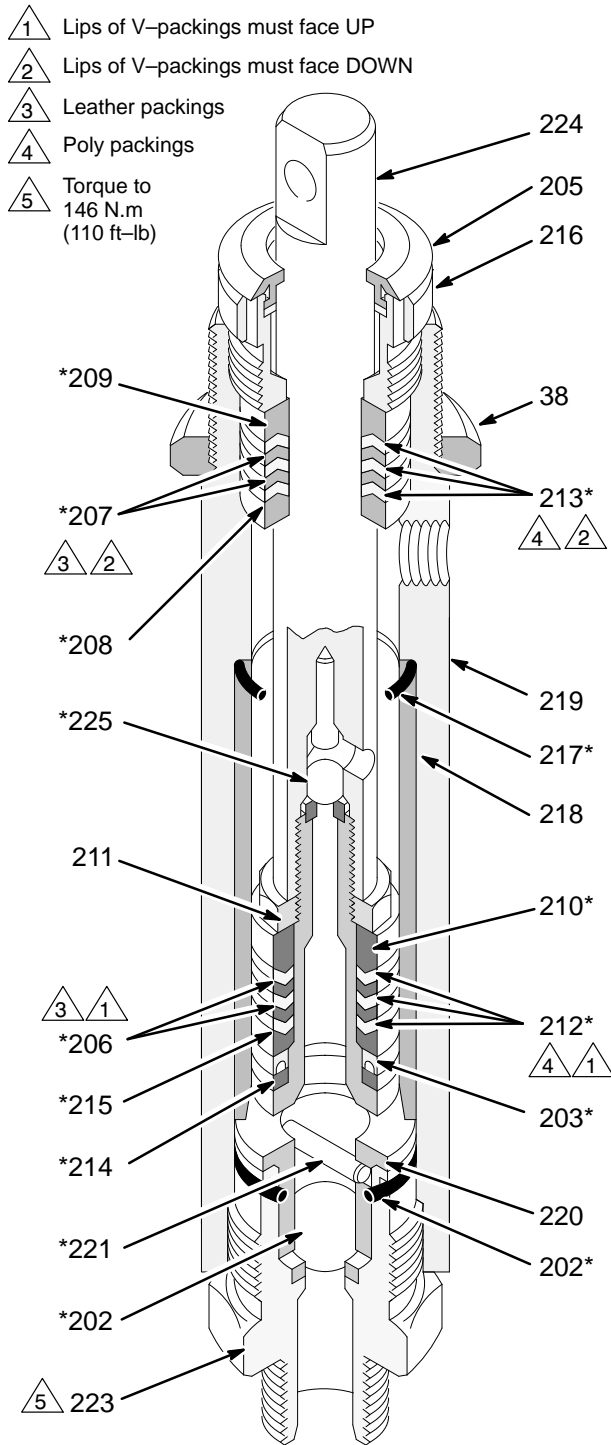
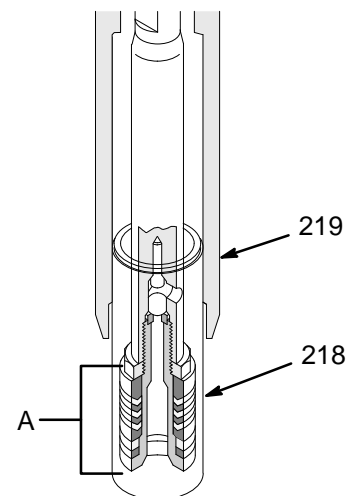

Fig. 17 01197
Fig. 20 0030
7. Clamp the piston rod (224) in a vise. Loosen the jam nut (211). Unscrew the piston valve (222). See Fig. 17–3.
8. Remove all parts from the piston valve (222).
1. Check the outside of the piston rod (224) and the inside of the sleeve (218) for wear. If the parts are worn, new packings will not seal properly. Replace these parts if needed.
2. Stack these parts onto the piston valve (222): the backup washer (214), seal (203*), female gland (215*), alternate the three plastic packings (212*) and the two leather packings (206*), and the male gland (210*). See Fig. 17.
8. Place a new seal (217*) into the cylinder and coat with oil. See Fig. 17.
9. Install these parts in the top of the cylinder (219): the male gland (208*), alternate the three plastic packings (213*) and the two leather packings (213*), and then install the female gland (209). See Fig. 17.
10. Loosely install the packing nut (216) and plug (205). See Fig. 17.
11. Coat the piston rod and packings with oil. Carefully slide the assembly **into the top of the sleeve** (218).
12. Slide the sleeve/piston rod assembly (A) **into the bottom of the cylinder** (219). See Fig. 20.
13. Screw down the cylinder locknut (38) until it is finger tight at the bottom of the external cylinder threads.
14. Place the intake valve (223) in a vise. Install a new o-ring (202*). Screw the pump cylinder onto the intake valve. Torque to 146 N.m (110 ft-lb). See Fig. 17.